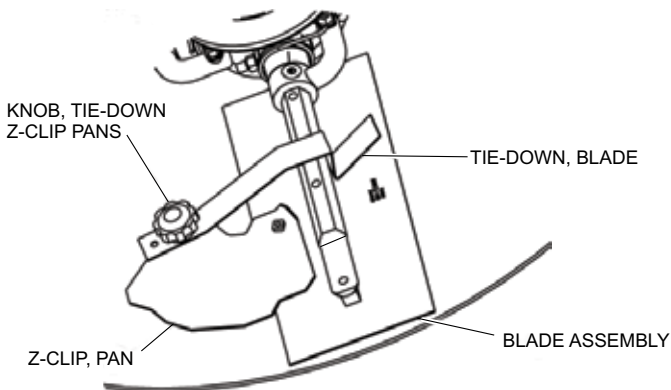

Figure 63. Z-Clip Finisher Pan Installation
Refer to Figure 63 when installing pans onto finisher blades.
3. Attach the blade tie-downs to the far side of the Z-Clip brackets with tie-down knobs as shown in Figure 63.